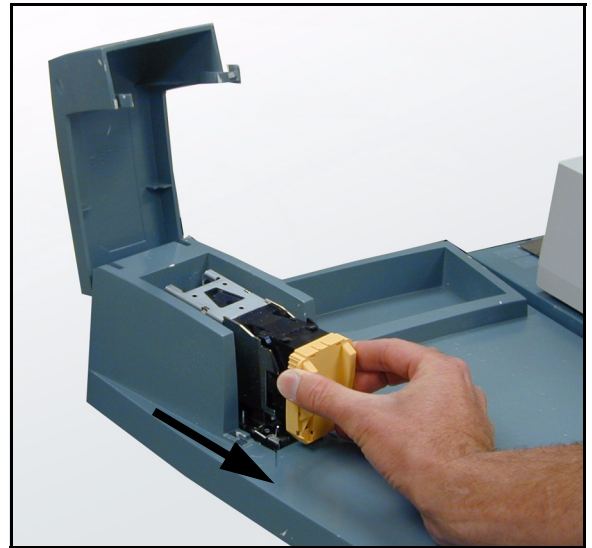

Figure 11: Removing the cartridge
- 2 Pull the empty cartridge out by holding the gold handle at the top tabs and pulling the cartridge straight out (Figure 11). Dispose of the cartridge according to local regulations.